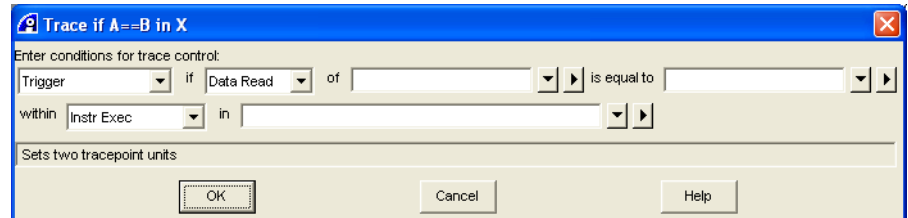

Figure 7-11 Trace if A==B in X dialog box
1. Select **Debug** → **Tracepoints** → **Trace if A==B in X...** from the Code window main menu to display the Trace if A==B in X dialog box. Figure 7-11 shows an example: